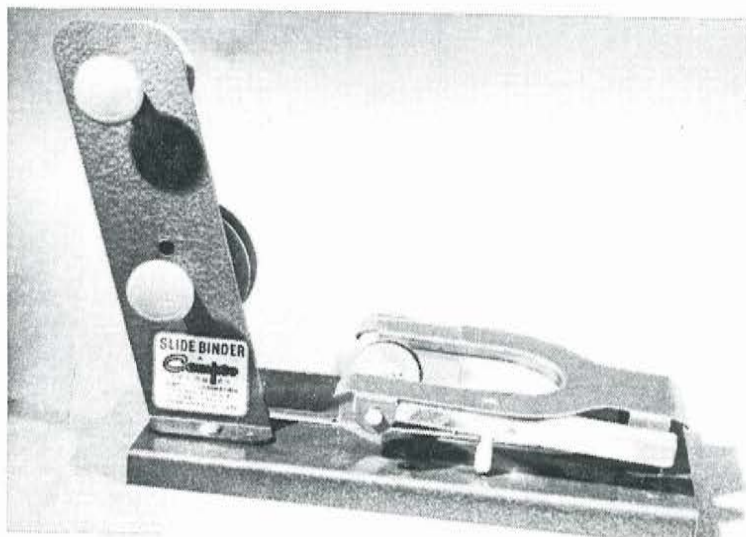

Figure 3. Compto Slide Binder.
3. Clamp the glass-film sandwich in a vise or binding machine. (Figs. 3 and 4) In years past, "binding machines" were manufactured by companies such as Burke & James, Compco, and Mansfield. Vises and hand clamps are usually available at hobby shops and hardware stores.
4. Clamp the glass-film sandwich in a vise or binding machine. (Figs. 3 and 4)